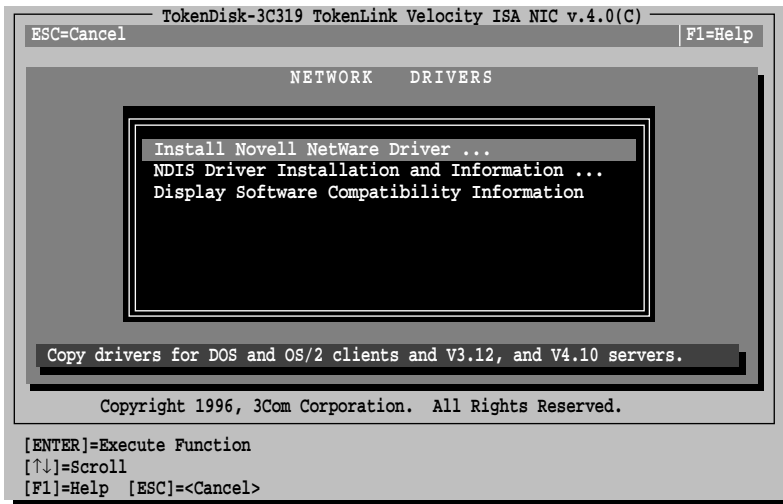

Figure 8-2 Network Drivers Menu
- 4** Select *Install Novell NetWare Driver*, as shown in Figure 8-2, and press [Enter].